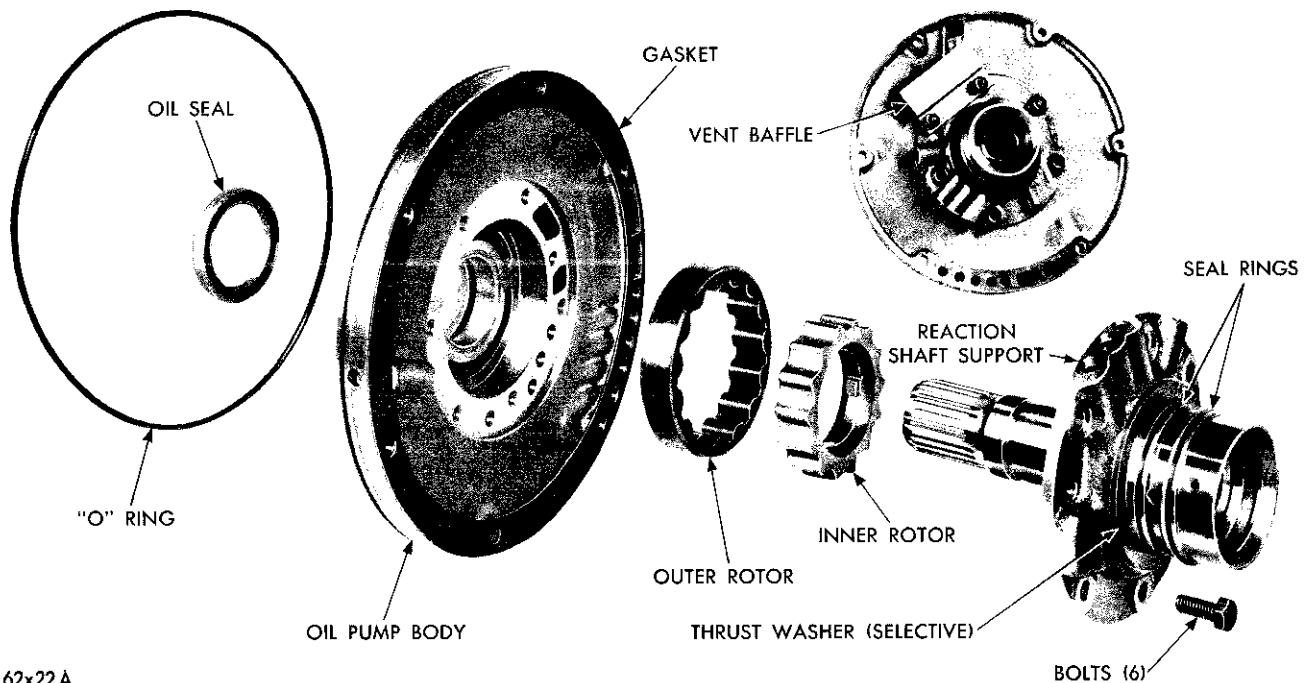

Fig. 66—Front Oil Pump and Reaction Shaft Support (Disassembled)
(Figure 66 shows the front oil pump and reaction shaft support disassembled.)
Inspect the interlocking seal rings (Fig. 66) on the reaction shaft support for wear or broken locks, make sure they turn freely in the grooves. Do not remove rings unless conditions warrant. Inspect the pump body and reaction shaft support bushings for wear or scores. Inspect machined surfaces on the oil pump body and reaction shaft support for nicks and burrs. Inspect the oil pump rotors for scoring or pitting. With the rotors cleaned and installed in the pump body, place a straightedge across the face of the rotors and pump body. Using a feeler gauge, measure the clearance between the straight edge and face of the rotors.
(1) Assemble the pump rotors in the pump housing (Fig. 66).
(2) Install the reaction shaft support and position the vent baffle over the vent opening. Install the retaining bolts and tighten to 150 inch-pounds torque.
(3) Place a new oil seal in the opening of the front oil pump housing (lip of seal facing inward) using Tool C-3860 drive the seal into housing until the tool bottoms.